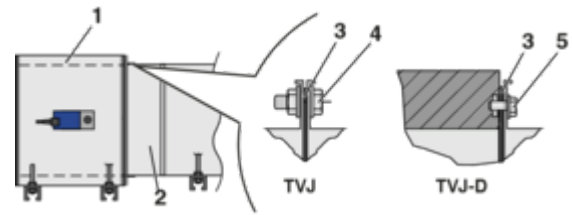

Fig. 14: Detail X: Connection version TVJ without acoustic cladding or TVJ-D with acoustic cladding
- X Detail ⇒ Fig. 14
X Detail ⇒ Fig. 14